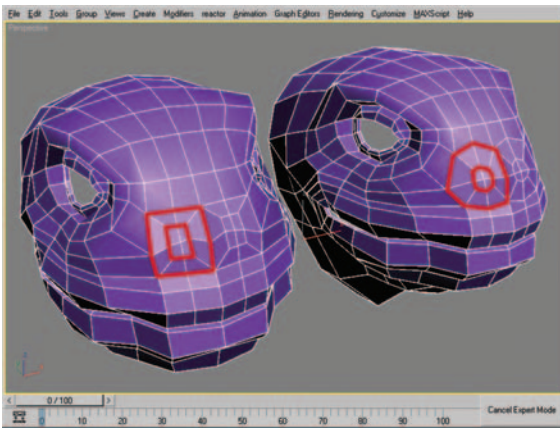

Figure 9.37 Edge flow before and after moving vertices with Edge Constraints turned on.
38. Using Edge Constraints when necessary, move the verts and edges around the nostril to form a more circular flow of edges. Figure 9.37 shows the edge configuration before and after moving verts with Edge Constraints active.